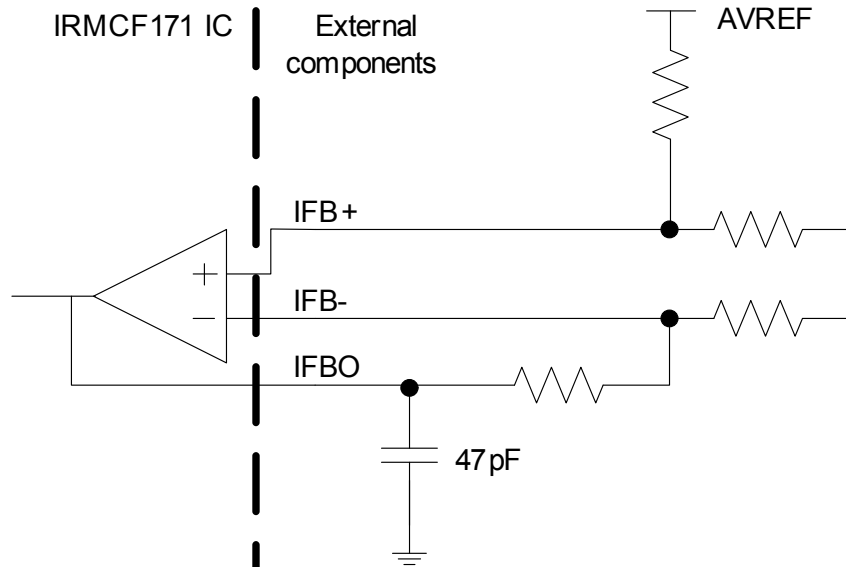

Figure 8 Op amp output capacitor
(1) Data guaranteed by design.
(2) To guarantee stability of the operational amplifier, it is recommended to load the output pin by a capacitor of 47pF, see Figure 8. Here only the single shunt current amplifier is shown but all op amp outputs should be loaded with this capacitor value.